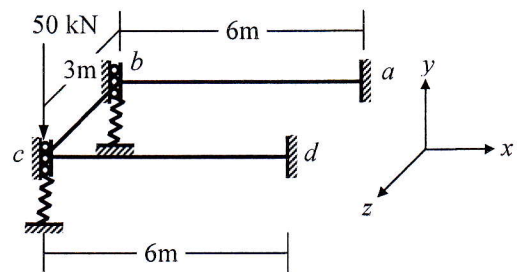

Fig. 11
- (i) Hinged, as shown in Fig. 11(i)
- (ii) Supported by circular foundation of radius 4-ft on the surface of sub-soil (half-space) with shear modulus $G_s = 400$ k/ft² and Poisson's ratio $\nu = 0.3$, as represented in Fig. 11(ii).
13. Use Stiffness Method to calculate the vertical deflection at node b and c of the grid $abcd$ loaded as shown in Fig. 11